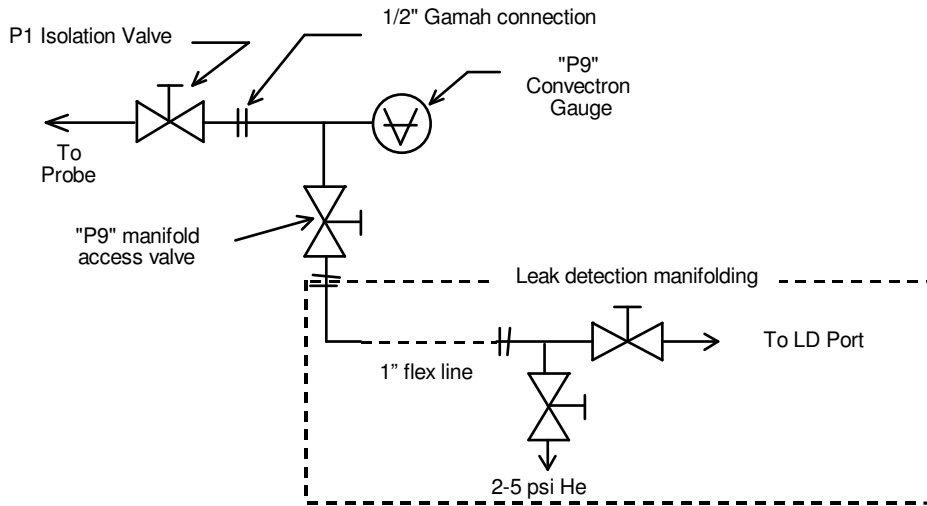

Figure 2b Configuration with PPMS
- L.6.2 Install / verify installed a guard valve connected to the PPMS pumpout valve per Fig. 2b. (This may require a KF/Conflat adapter.)